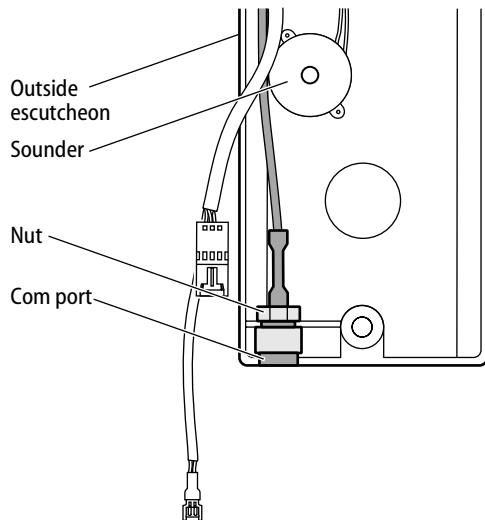

Figure 4 Disconnecting the sounder and com port from the outside escutcheon
- 2 Insert a flat blade screwdriver under the sounder and turn it to remove it from the escutcheon (Figure 4).